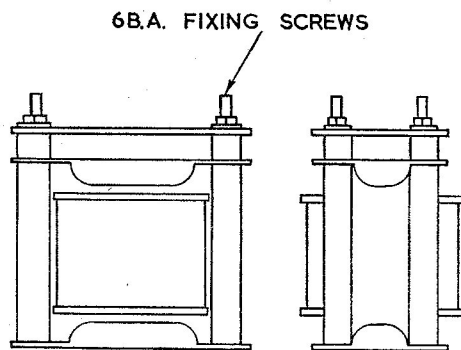

Fig. 1. Transformer, Type P 4061
2. The transformer is illustrated in fig. 1. It consists of windings wound on mumetal "E"